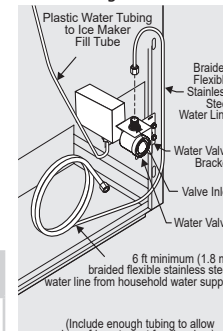

Figure 2
5. **If you use braided flexible stainless steel tubing** - The nut is already assembled on the tubing. Slide nut onto valve inlet and finger tighten nut onto valve. Tighten another half turn with a wrench; DO NOT overtighten. See Figure 2.